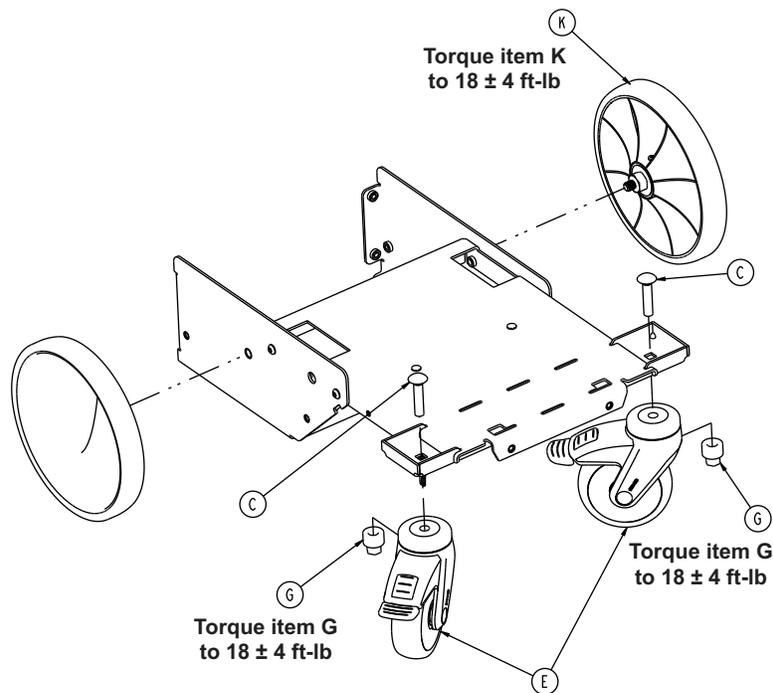

Figure 12 – Front wheels
5. Slightly tip the product and place a 2" x 4" board under the front corner of the frame on the side where you are replacing the front wheel (Figure 12).